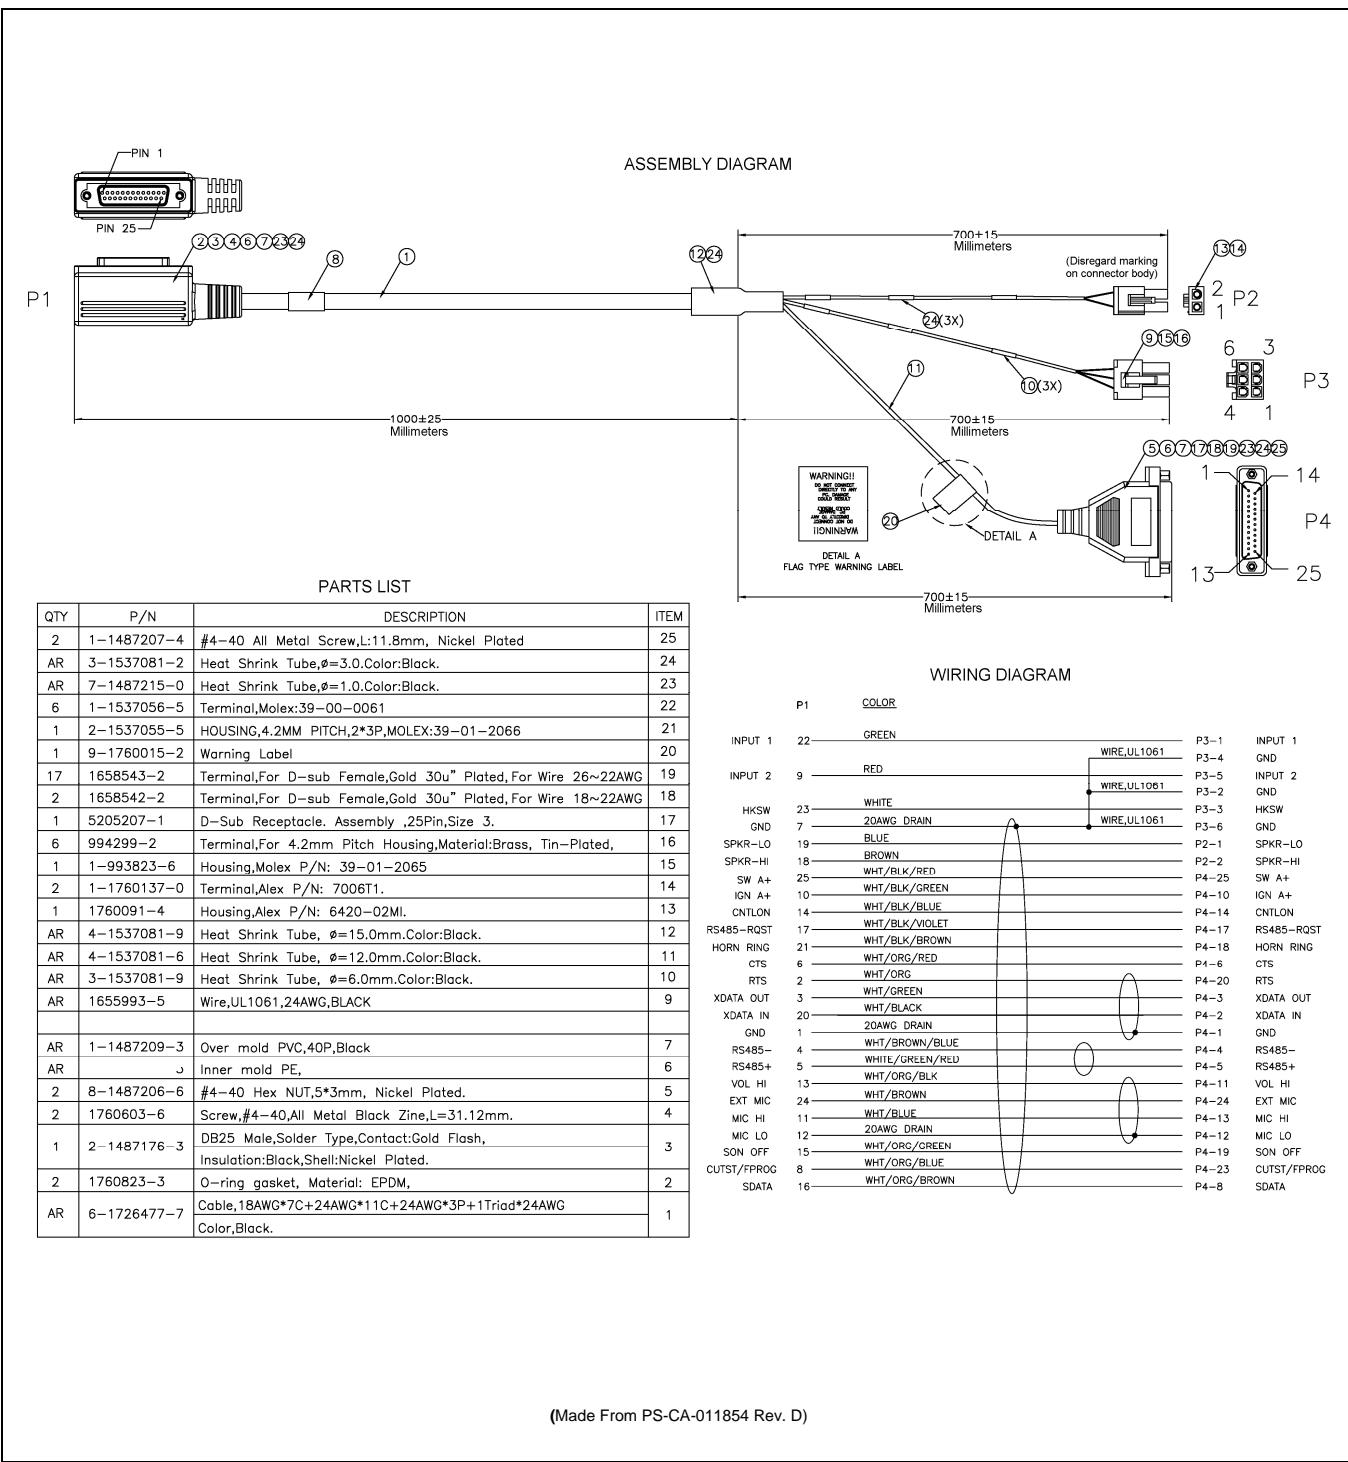

Figure 11-3: CH-721 Option Cable CA-011854-001
CH-721 Option Cable CA-011854-001 can be used to connect optional equipment to the 25-pin D-subminiature (DB-25) connector on the rear of the CH-721. This cable expands the connections available at the 25-pin connector to three (3) separate connectors. The cable's assembly and wiring diagrams are shown in Figure 11-3 below.